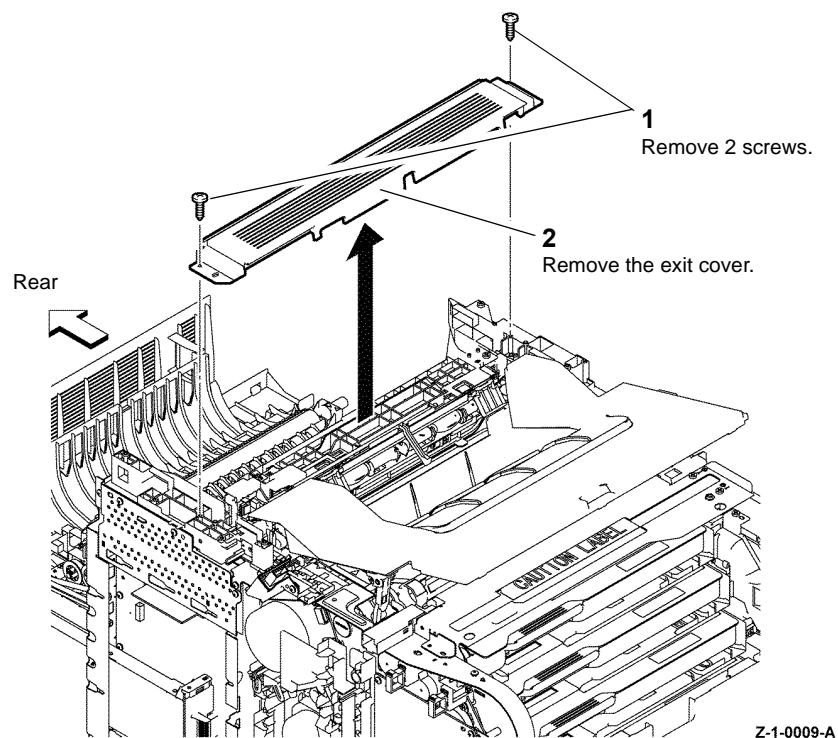

Figure 1 Exit cover C400
3. Remove the exit cover, Figure 1.